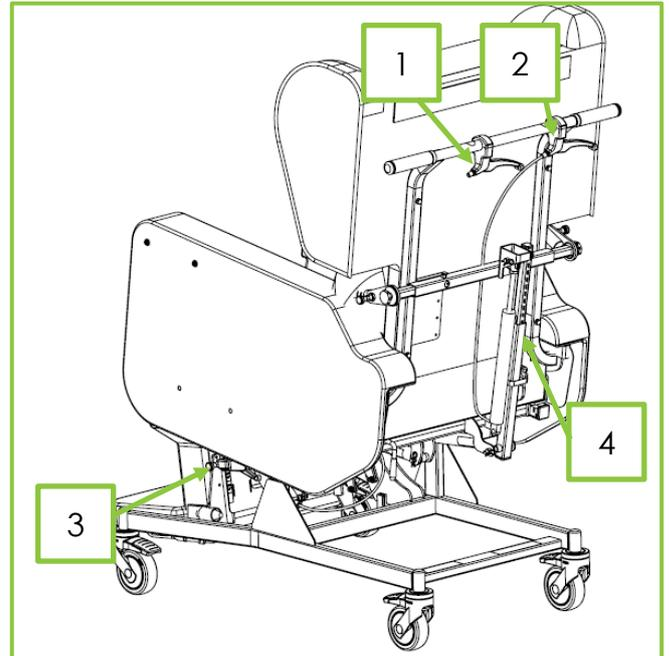
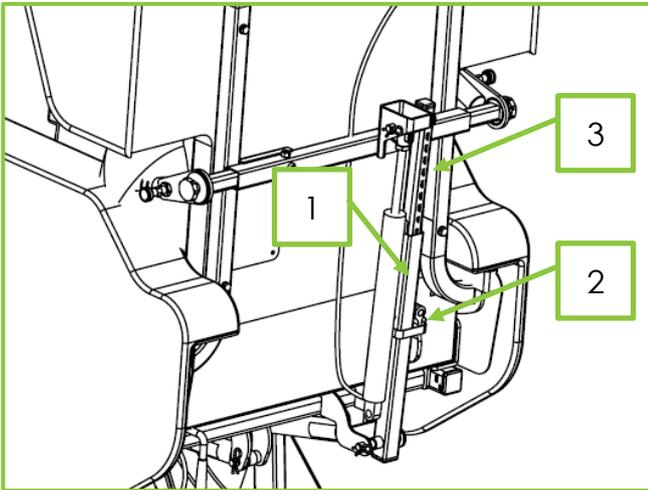
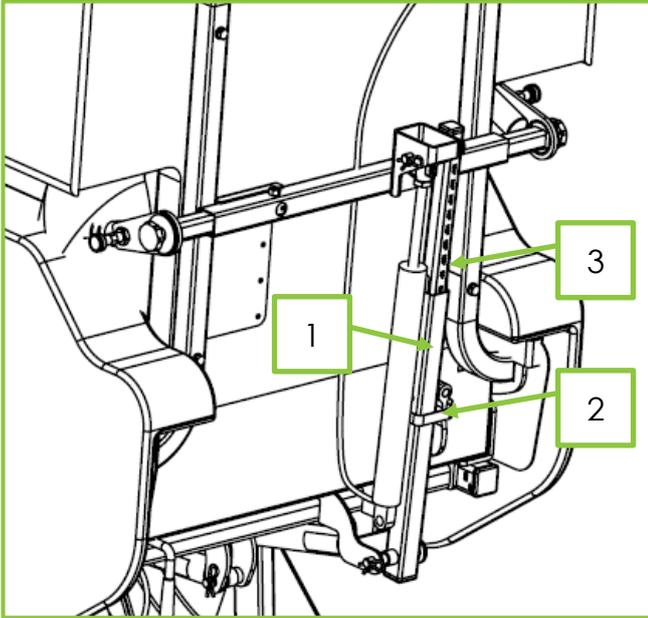

Figure 24 – Overview of manual controls
Figure 25
Fig 29
1. **Manual Backrest** – The backrest can be adjusted between 90 degrees and 130 degrees from the seat angle; see page 5 for a diagram of this. The backrest lever (Fig 24, Item 1) is used to adjust this angle. The backrest is also fitted with a lockout slide (Fig 24, Item 4.) that can be used to restrict the use of the backrest angle adjustment.
2. **Manual Tilt-in-Space** – The tilt-in-space position can adjust the seat angle from 7 degrees to 37 degrees from the horizontal position; see page 5 for a diagram of this. The Tilt-in-space lever (Fig 24, Item 2) is used to adjust this angle.
4. **Manual Leg rest** – The leg rest can be adjusted between 75 degrees and 160 degrees; see page 5 for a diagram of this. The Leg rest lever (Fig 24, Item 3) can be used to adjust this angle.
2. Locate the locking lever (Fig 25, Item 2) on the side of the backrest lockout slide (Fig 25, Item 1).
4. Pull the locking catch on the backrest lever, then pull the main lever (Fig 24, Item 1). Move the backrest to the desired measurement. The backrest angle measurement can be read off the scale at the top of the backrest adjustment slide (Fig 25, Item 3).
2. Pull and hold the tilt-in-space lever (Fig 24, Item 2) and move the chair to the desired tilt-in-space angle
6. Pull and hold the tilt-in-space lever (Fig 24, Item 2) and move the chair forward to the forward tilt position.
2. Locate the leg rest adjustment lever (Fig 24, Item 3).
1. **Manual Backrest** – The backrest can be adjusted between 90 degrees and 130 degrees from the seat angle. The backrest lever (Fig 24, Item 1) is used to adjust this angle. The backrest is also fitted with a lockout slide (Fig 24, Item 4.) that can be used to restrict the use of the backrest angle adjustment.
2. Locate the locking lever (Fig 29, Item 2) on the side of the backrest lockout slide (Fig 29, Item 1).
4. Pull the locking catch on the backrest lever, then pull the main lever (Fig 24, Item 1). Move the backrest to the desired measurement. The backrest angle measurement can be read off the scale at the top of the backrest adjustment slide (Fig 29, Item 3).